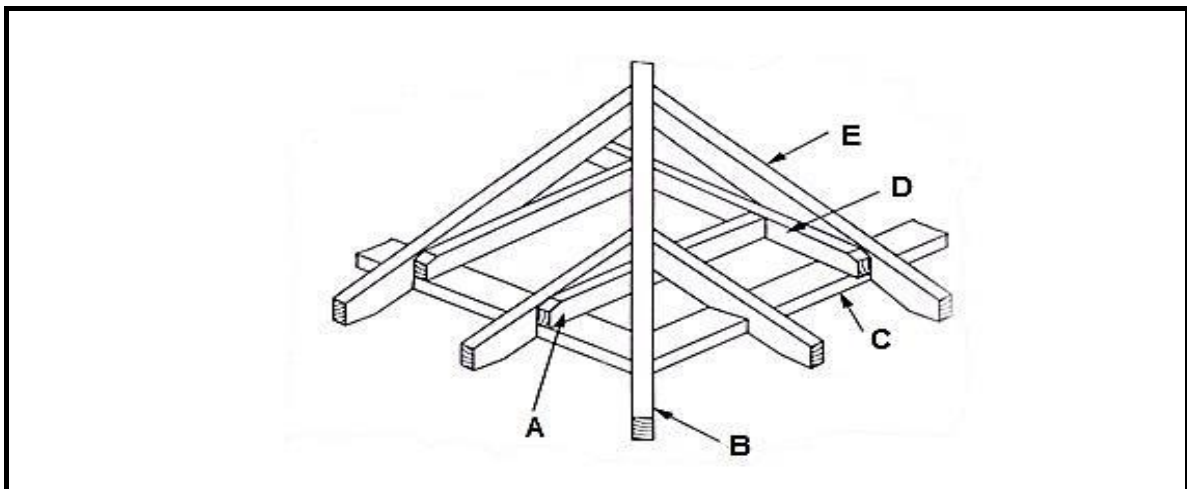

FIGURE 4.8
- 4.8 FIGURE 4.8 below shows details of a corner of a hipped end. Study the drawing and answer the questions that follow.